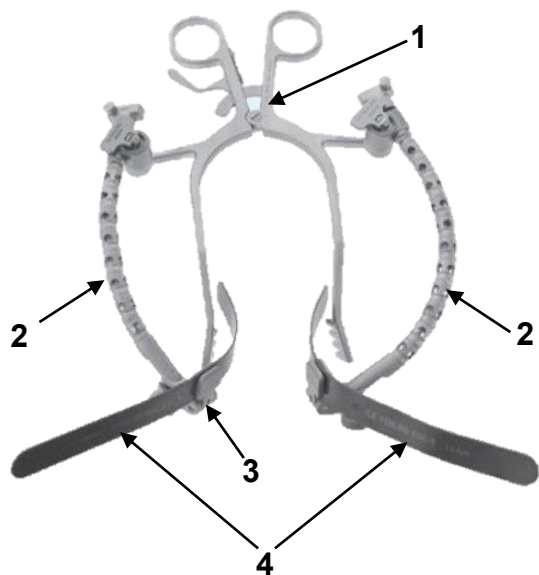

Figure 1: Configuration example for the CONCEPT CEREBELLUM retractor with the flexible arms, spatula adapters and the spatulas
Figure 1 depicts a configuration example for the CONCEPT CEREBELLUM retractor (1) with the flexible arms (2) and the spatulas (4). Table 1 lists the corresponding components.